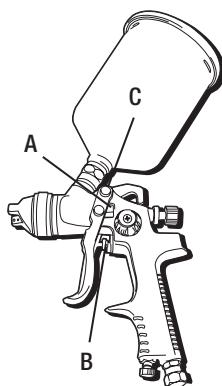

Fig. 1
- C. trigger pivot pointSee Fig. 1 for Location of above points.